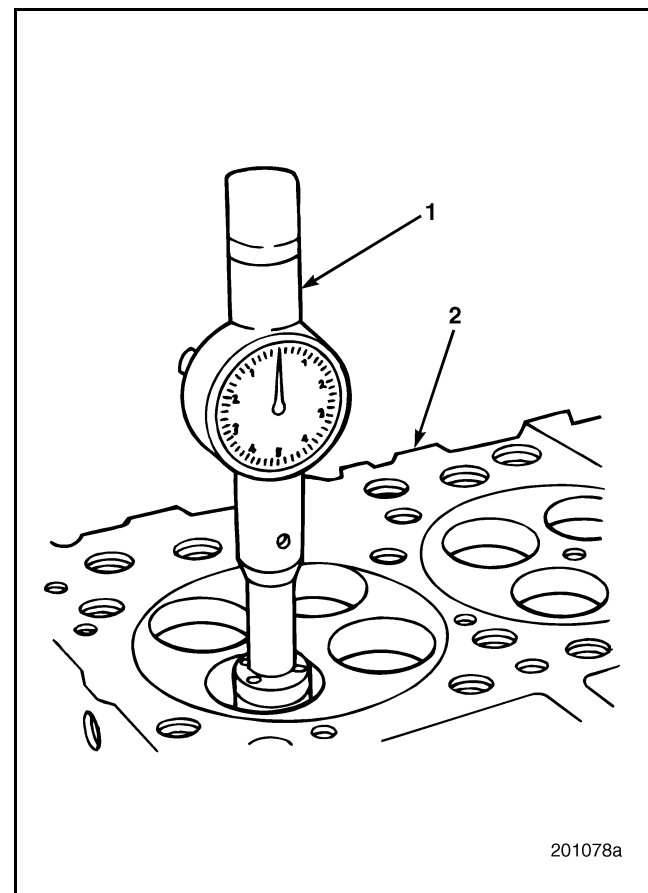

Figure 265 — Checking Counterbore Dimensions
2. Check the surface finish for smoothness. Check the counterbore diameter (Figure 265) with an inside diameter micrometer. Compare the measured diameter to specification.